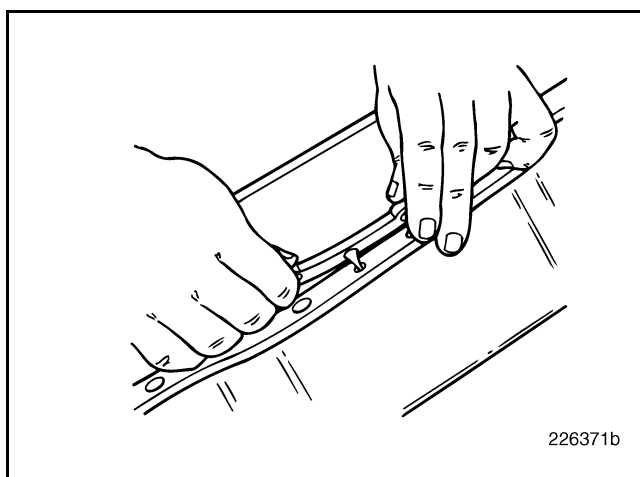

Figure 363 — Locating Cone Alignment
- Beginning at the center of the pan at one of the rectangular tabs, align the rubber locating cones with the corresponding holes in the pan rails (Figure 363).